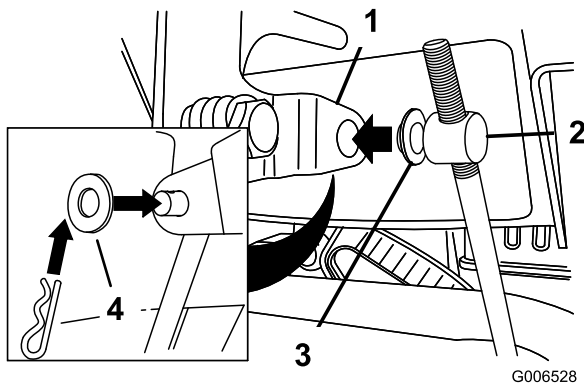

Figure 5
3. Place a flat washer on the trunnion (Figure 5).
6. Pull up on the speed control rod and insert the trunnion into the hole in the speed selector lever (Figure 5).
- B. Disconnect the trunnion from the speed selector lever (Figure 5).